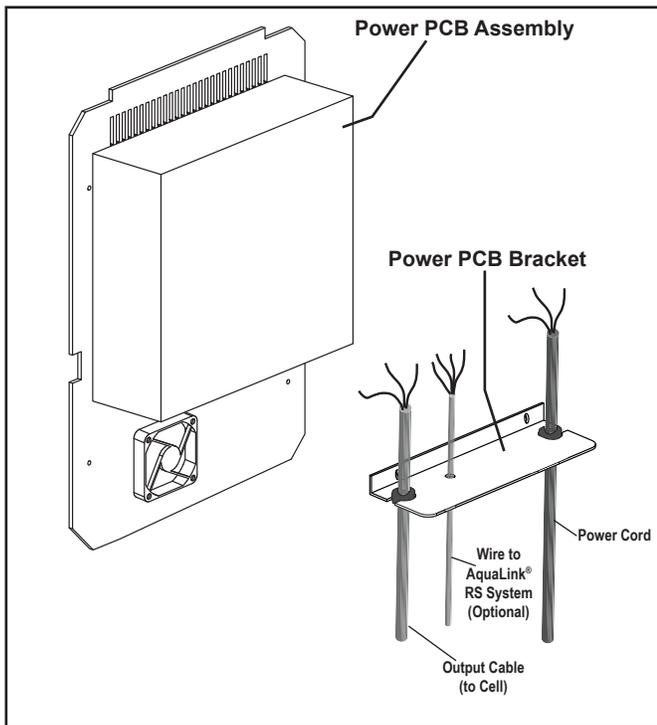

Figure 5. Removing the Power PCB Bracket
6. Keeping the wires threaded through the Power PCB Bracket, detach the bracket from the back plate by removing the two (2) screws and three (3) washers (see Figure 5).